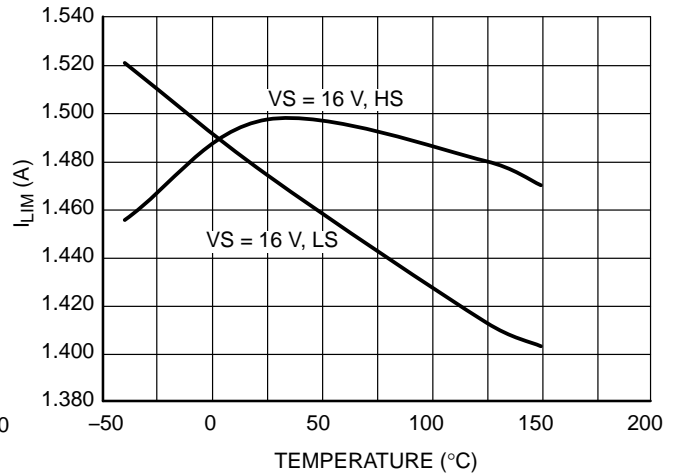

Figure 14. Output Over Current vs. Temperature
- Refer to Figure 14 for current limit behavior.